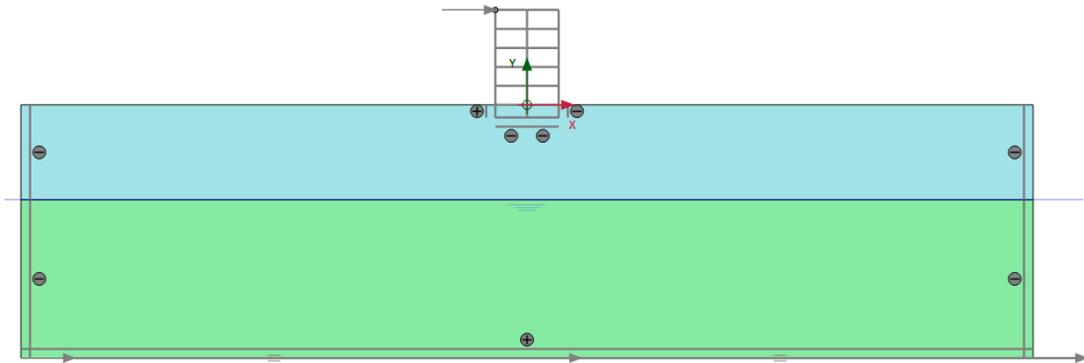

Figure 219: Initial phase
4. The model for the initial phase is shown in Figure 219 (on page 250).